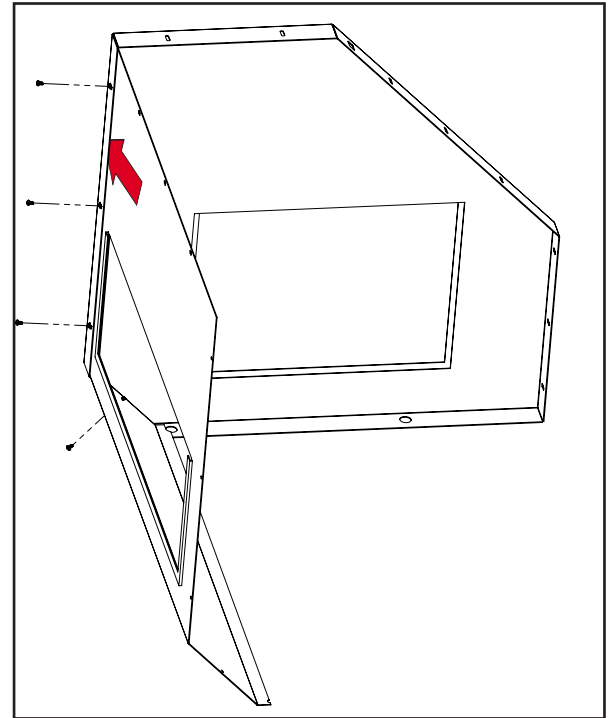

Figure 4
2. Slide the Rear Panel into the inside lip of the Right Side Panel; secure with four 10-32 $\times$ 3/8" Pan Head Screws (see **Figure 4**).